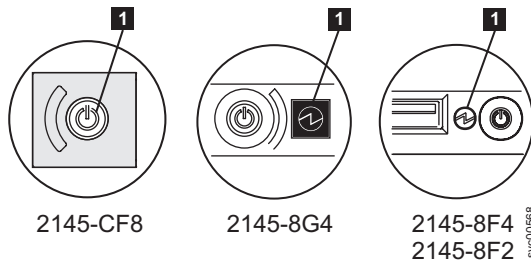

Figure 82. Power LED on the SAN Volume Controller models 2145-CF8, 2145-8G4, and 2145-8F4 or 2145-8F2 operator-information panel
**Is the power LED on the operator-information panel continuously illuminated?** Figure 82 shows the location of the power LED **1** on the operator-information panel.